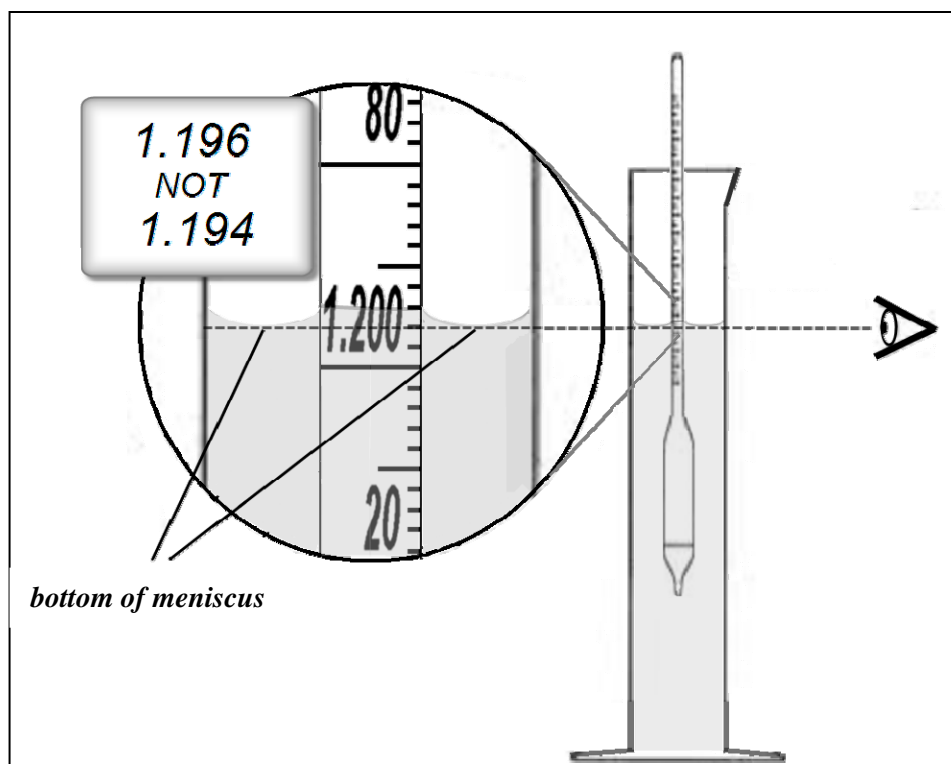

Figure 14: Reading the Hydrometer
14. Allow the *hydrometer* to settle within the solution. Once the *hydrometer* is stable, place your head at eye level to the *meniscus* of the solution as seen in Figure 14.